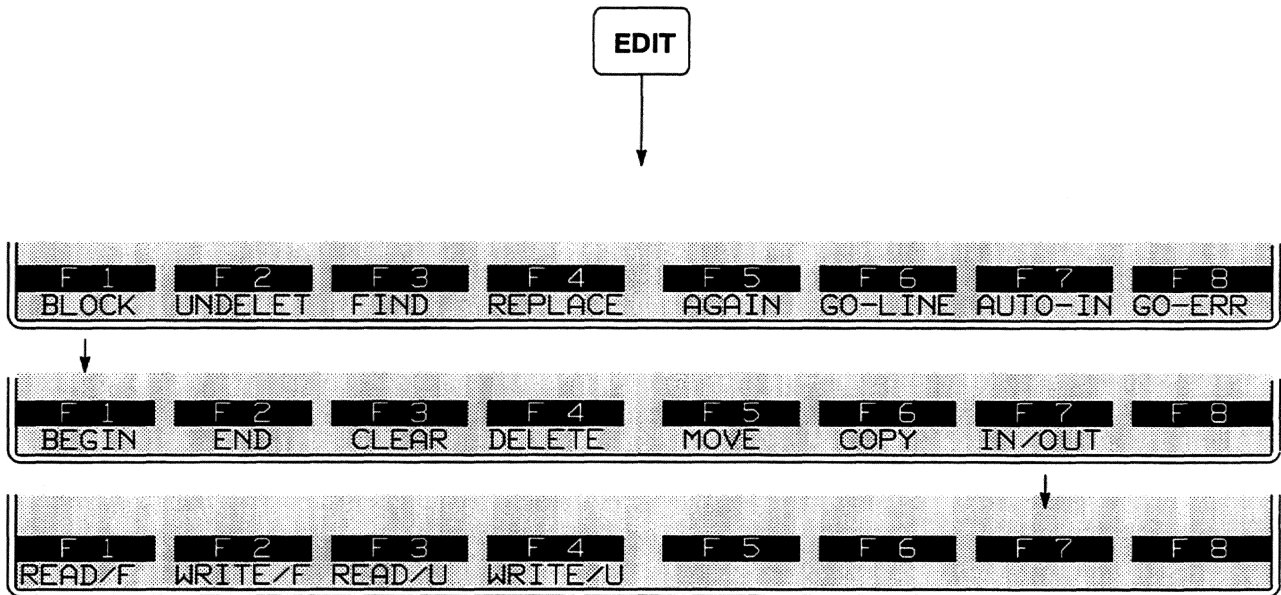

Figure 30-1 Press the *EDIT* key to access special editing functions on the Protocol Spreadsheet.
As you create a spreadsheet program, you may use any of the keys on the editing keypad to modify your entries. Sophisticated editing options are added to these basic functions when you press **EDIT** (see Figure 30-1). **EDIT** is an alternate action key which returns you to program function keys if you press it a second time.
The editing softkeys shown in Figure 30-1 appear when you press **EDIT** with the Protocol Spreadsheet displayed. Press **EDIT** again to move back to the program function keys. When you press **F1** for **BLOCK**, a subset of editing options appear. Press **DONE** to move from this subset back to the top level of editing functions.
6. *In/Out.* To access the four Read/Write options, press the function key marked IN/OUT. A new rack of function keys appears (see Figure 30-1). These functions are explained in Section 30.2(B).